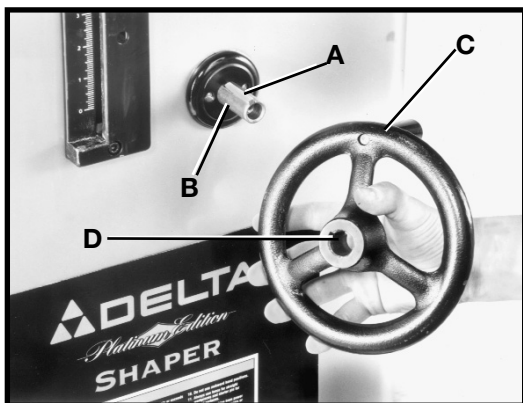

Fig. 2
1. Insert key (A) Fig. 2 into slot in spindle raising and lowering shaft (B).
2. Place the handwheel (C) Fig. 2 on the spindle shaft (B). Fit the key (A) into the slot (D) in the handwheel. Insert the set screw that holds the handwheel to the shaft. Tighten the screw firmly against the key.